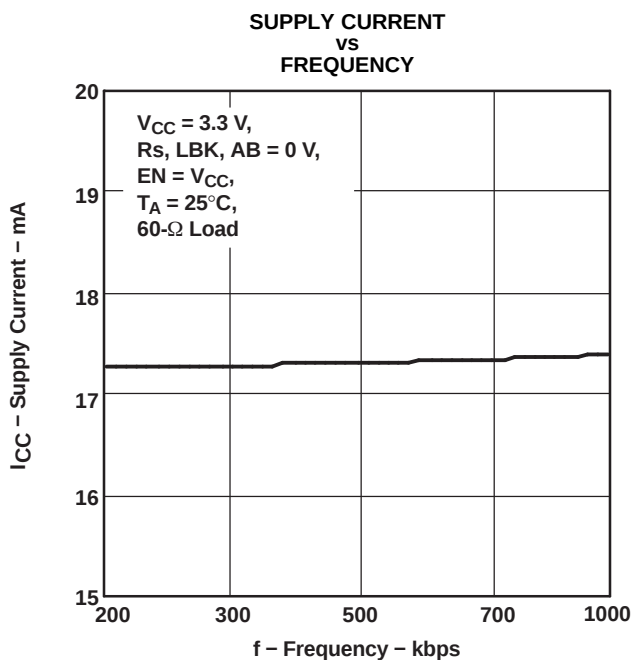

Figure 19.
- Added 60-Ω load test condition to Figure 19 17 - Deleted INTEROPERABILITY WITH 5-V CAN SYSTEMS section 20 - Added ISO 11898 COMPLIANCE OF SN65HVD230 FAMILY OF 3.3-V CAN TRANSCEIVERS section 20	17 20 20